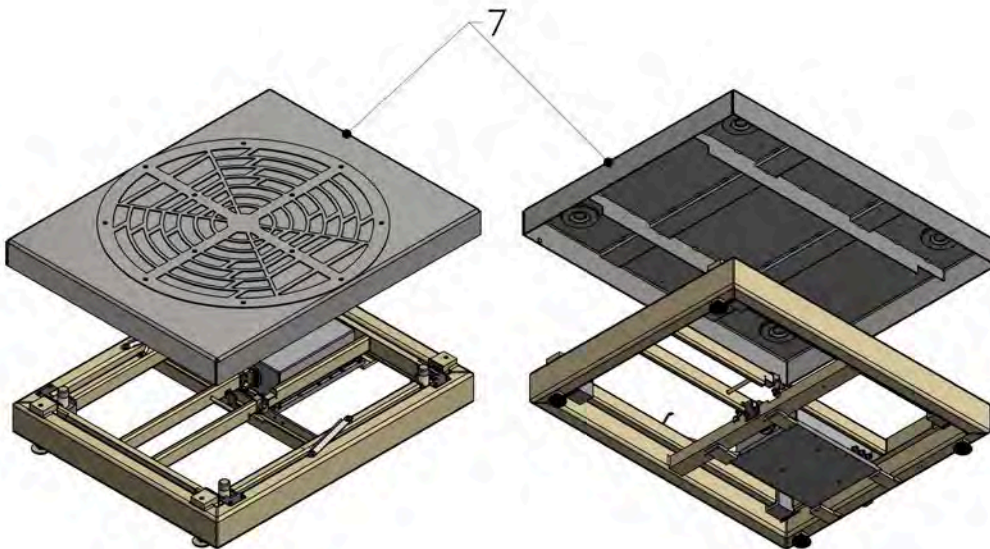

Fig.5
5. Put the weighting pan (7) onto the mandrel (4). (Fig.5)